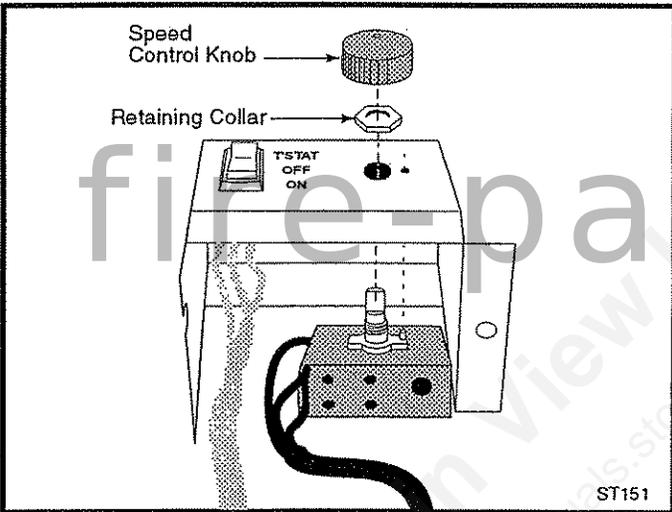

Fig. 22 Install the rheostat into the switchbox.
6. **Install the rheostat into the switchbox.** (Fig. 22)